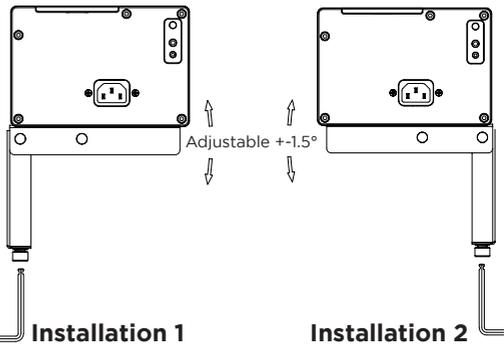

Fig. 2
**Attention:** Please note the 2 possible installation methods (Fig.2)! Depending on the method used, align the mounting brackets accordingly on the installation line in such a way that the surface of the bracket on which the screen is placed is the same as the installation line! Align the brackets with the installation line and mark the 4 drill holes per bracket on your wall.
For installation methods 1 and 2, With 2 people, carefully place the screen onto the mounting brackets so that the power supply points to the left side. Lower the screen slowly and check the stability of the mounting brackets on your wall. There are 2 grooves in the bottom of the screen housing, these must be aligned with the nuts provided on the mounting brackets. Turn the nuts 90° with a suitable screwdriver to tighten and prevent the screen from falling down. (Fig. 2)
Now that the screen is in its final place on the brackets, connect the power supply to the screen and extend completely. Now check the angle between the screen and your wall and use the Allen key to adjust the adjustment screws on the two L-brackets until the fabric is perfectly straight and parallel to the projection. You can adjust the brackets up to +/- 1.5° (fig.2).